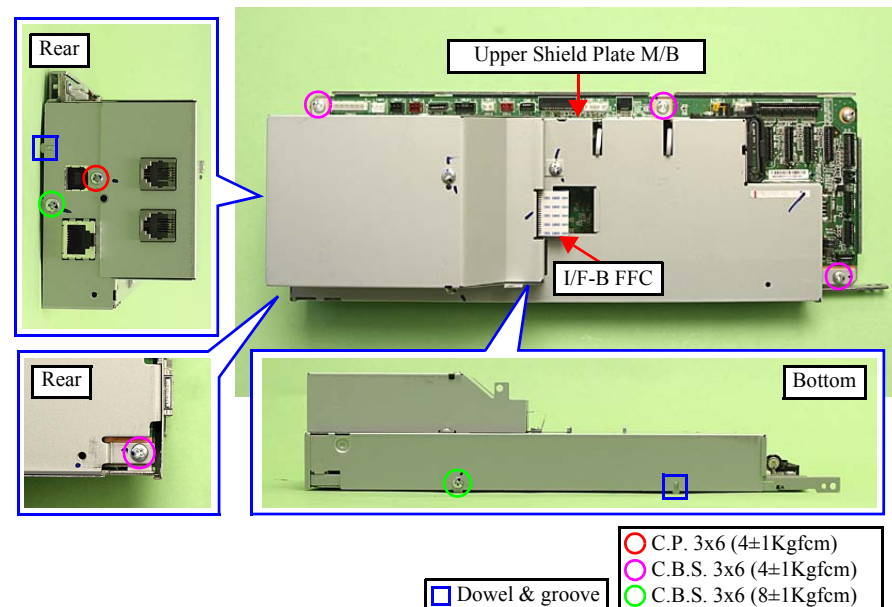

Figure 4-41. Removing the Main Board (1)
- Disconnect the I/F-B FFC from the FAX board. (Artisan 800/PX800FW/TX800FW only) (See Fig. 4-41.)
- Align the dowels (x2) of the Lower Shield Plate M/B with the grooves (x2) of the Upper Shield Plate M/B. (See Fig. 4-41.)